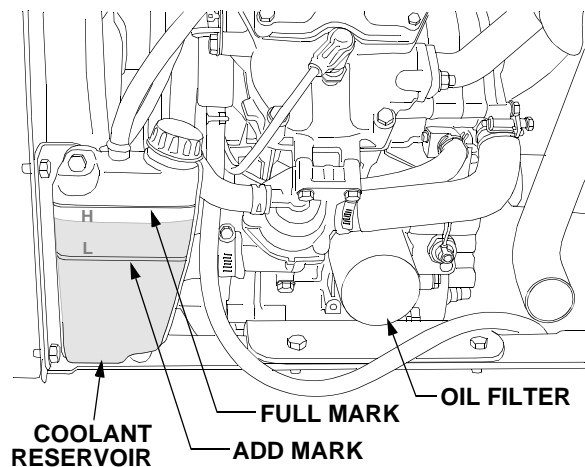

Figure 57
- Remove the filter by turning it counterclockwise using an automotive type filter wrench to loosen. See Figure 57.
- Raise the tractor hood and check the coolant level in the overflow reservoir on the *left* side of the engine. Refer to Figure 57.